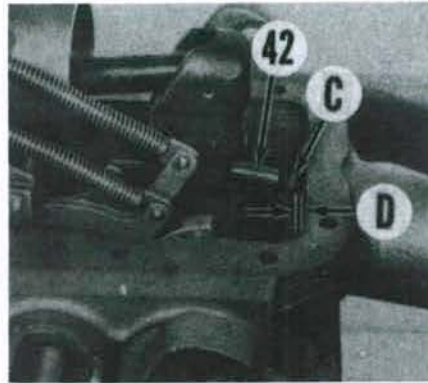

Fig. 218—Adjust draft control rod (42) so clearance (D) between capscrew (C) and lift cover casting is 5.84 mm (0.230 inch).
219. DRAFT CONTROL ROD. To adjust draft control rod (42—Fig. 218), move draft control lever to fully "UP" position. Be sure draft control rod is contacting master control spring plunger, then adjust control rod cap screw (C) until clearance (D) between head of screw